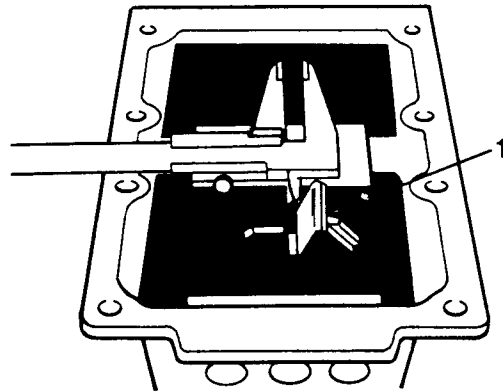

Fig H1.123
- (2) Refer to Fig H1.123. Once the spring is hooked onto the shaft, tighten the adjusting screw (1) so that this overlaps some 9 mm.